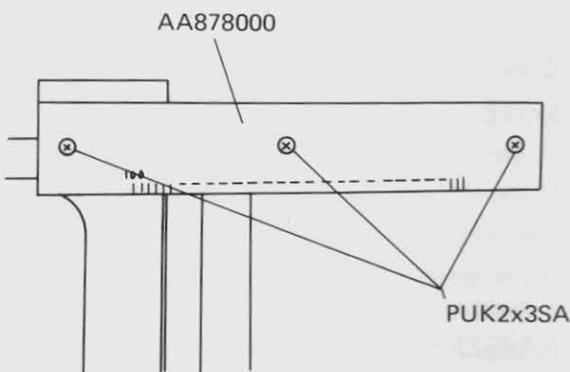

Fig. 11-2
- 11-1-3 Remove East-West Graduated plate AA-878000 by drawing 3 Screws PUK2x3SA. (See Fig. 11-2)